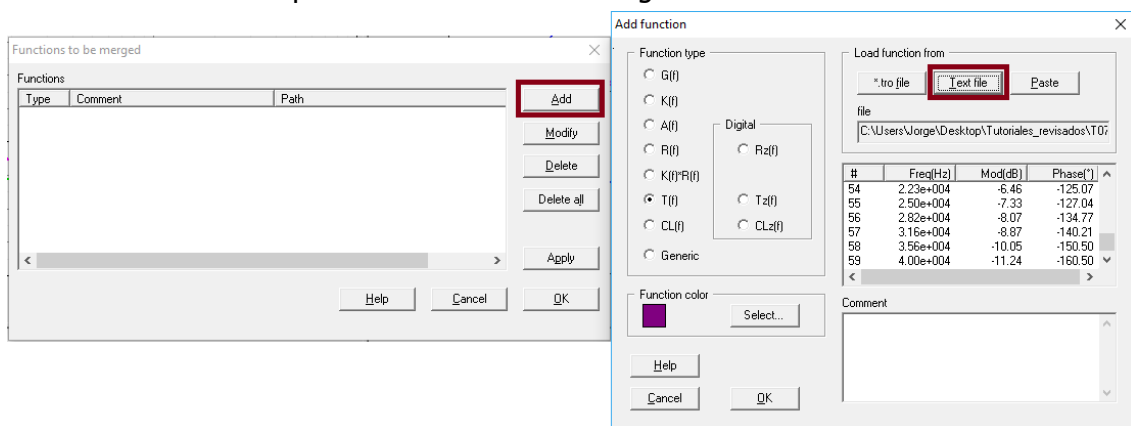

Figure 22: Importing txt data in SmartCtrl
5. Add the Psim AC sweep data and click OK. See Figure 22.